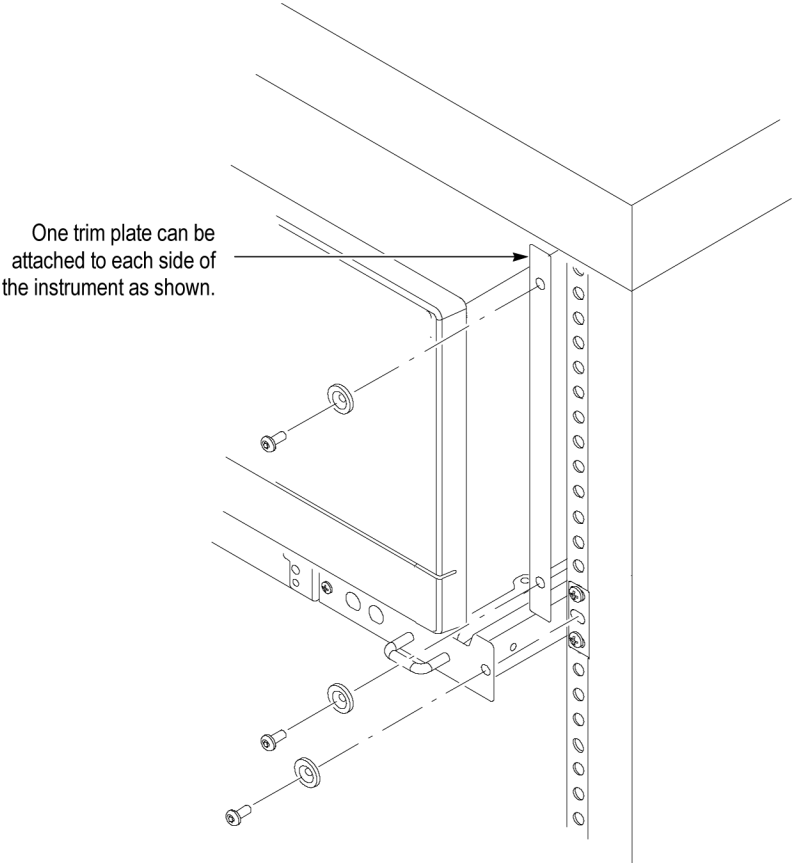

Figure 10: Installation of trim plate
13. Install the appropriate trim plates as shown. (See Figure 10.)